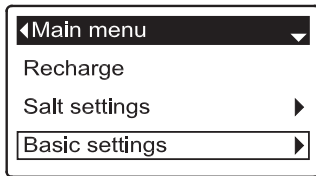

FIG. 104
1. From any of the rolling status screens, press the SELECT (O) button to display the **Main menu**.
2. Press the DOWN (▼) button to scroll through the menu options until **Basic settings** is highlighted (See Figure 104).